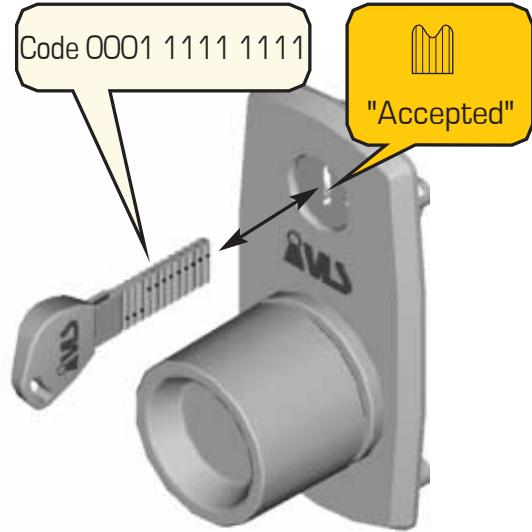

Figure 21 – Change of the master code
2. Enter the number of the "change of the master code" operation (0001 1111 1111) on the key (fig. 21).